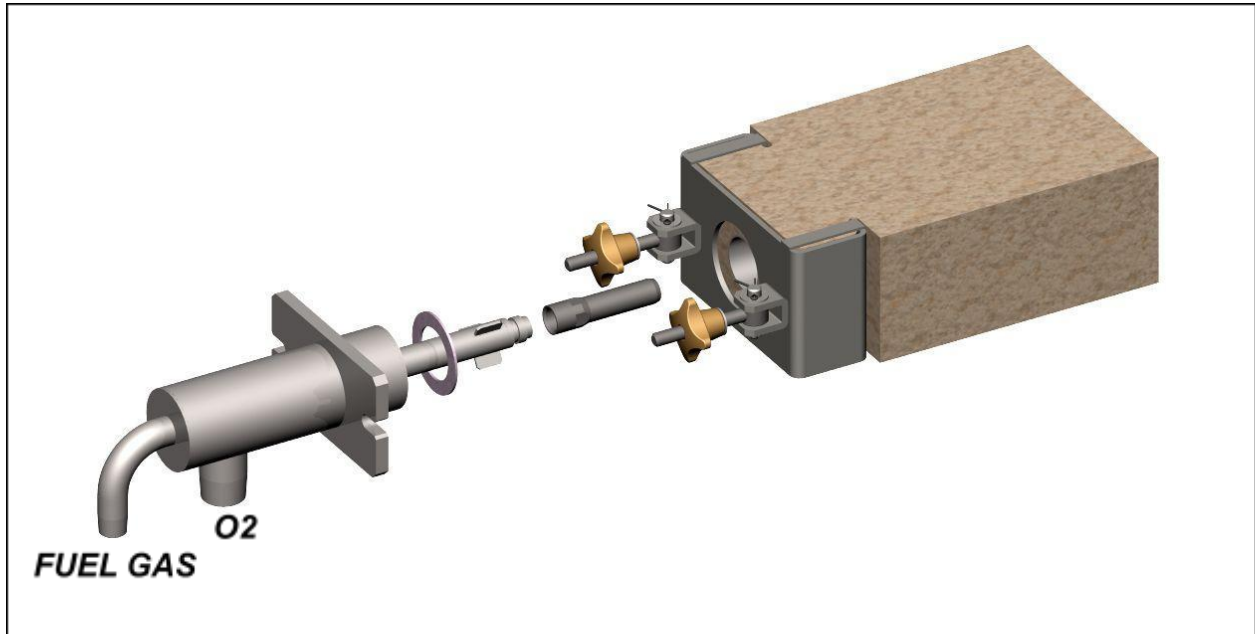

Figure 6
- ◆ Place the burner in the block (Figure 6). Place the bracket adapter bolts in the burner body plate slots, and tighten them to compress the ceramic gasket.